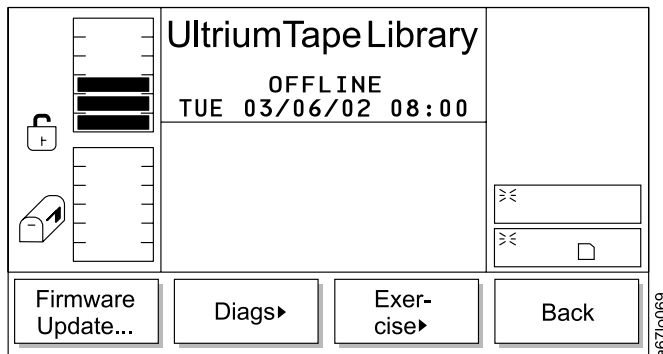

Figure 163. Library Submenu
- If **Library** is selected, the Library Submenu displays (see Figure 163 on page 134).
- If **Cancel** is selected, the Library Submenu displays (see Figure 163 on page 134).
- If **Back** is selected, the Library Submenu displays (see Figure 163 on page 134).